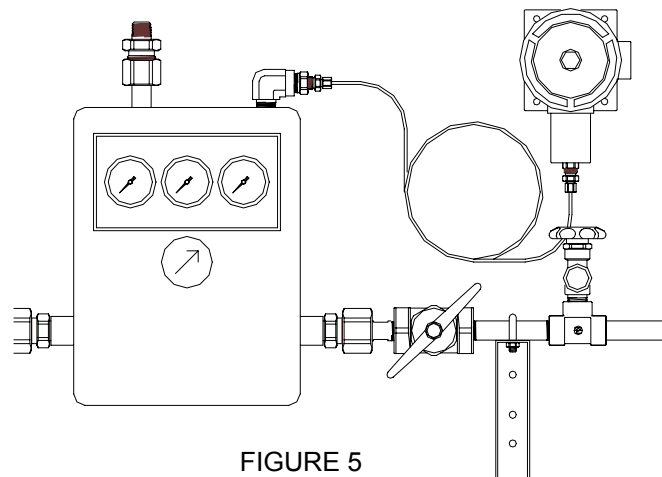

FIGURE 5
- 7) Install the 1/8" tubing to both the pressure switch and the manifold. (Figure 5)